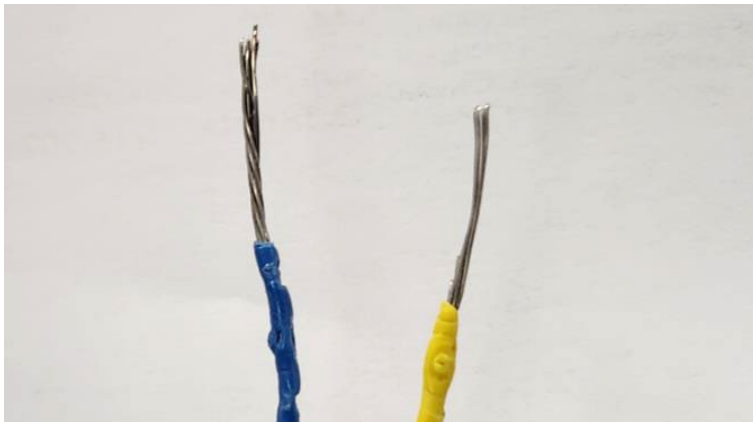

Figure 6: Blue and yellow wires stripped
7. Repeat the previous step for yellow and blue wires protruding from the faceplate using a 22 AWG wire stripper. Figure 6.